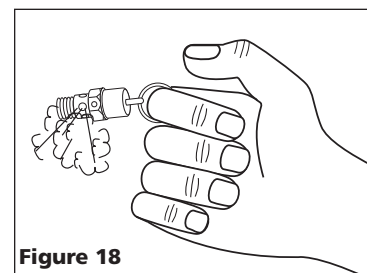

Figure 18
- b. Wearing safety glasses, pull the ring on the safety valve to release pressure from compressor tank. Protect yourself from fast-moving air being released; do not allow fast-moving air to be directed toward your face (See Figure 18).